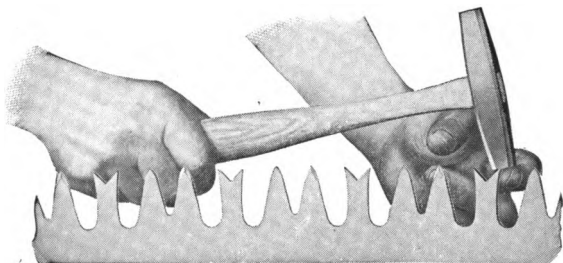

Fig. 2—METHOD OF SWAGING RAKERS
their length, after which each raker point should be swaged or bent outward and downward by the use of the swaging hammer, as shown in Fig. 2, reducing the length of rakers from  $\frac{1}{16}$  to  $\frac{1}{2}$  of an inch, according to the kind of timber to be cut. The uniformity in the length or height of raker points can readily be gauged by the use of the graduated gauge as shown in Fig. 6. The faces of the gauge are marked from one to six, the gauge being held rigid by small roundhead screw; to adjust gauge loosen the screw and turn gauge so that face opposite number wanted projects above and parallel with steel plate, against which teeth of saw rest, then tighten screw. The points of rakers should just touch the face of gauge. Face marked (1) makes raker  $\frac{1}{16}$  of an inch shorter than cutting teeth; (2)  $\frac{1}{8}$ ; (3)  $\frac{1}{4}$ ; (4)  $\frac{3}{8}$ ; (5)  $\frac{1}{2}$ ; (6)  $\frac{3}{4}$ .